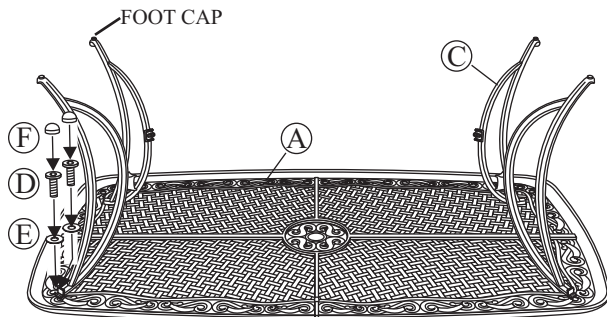

Fig.1
Step 2: Place the table top upside down on a flat, non-abrasive surface. Attach a table leg to the table top by using the bolts and washers as shown in **Fig.1**. Guide bolts through holes in the table legs and into the pre-drilled holes in the table top. **Hand tighten 2-3 turns only.** Repeat for the other three legs.